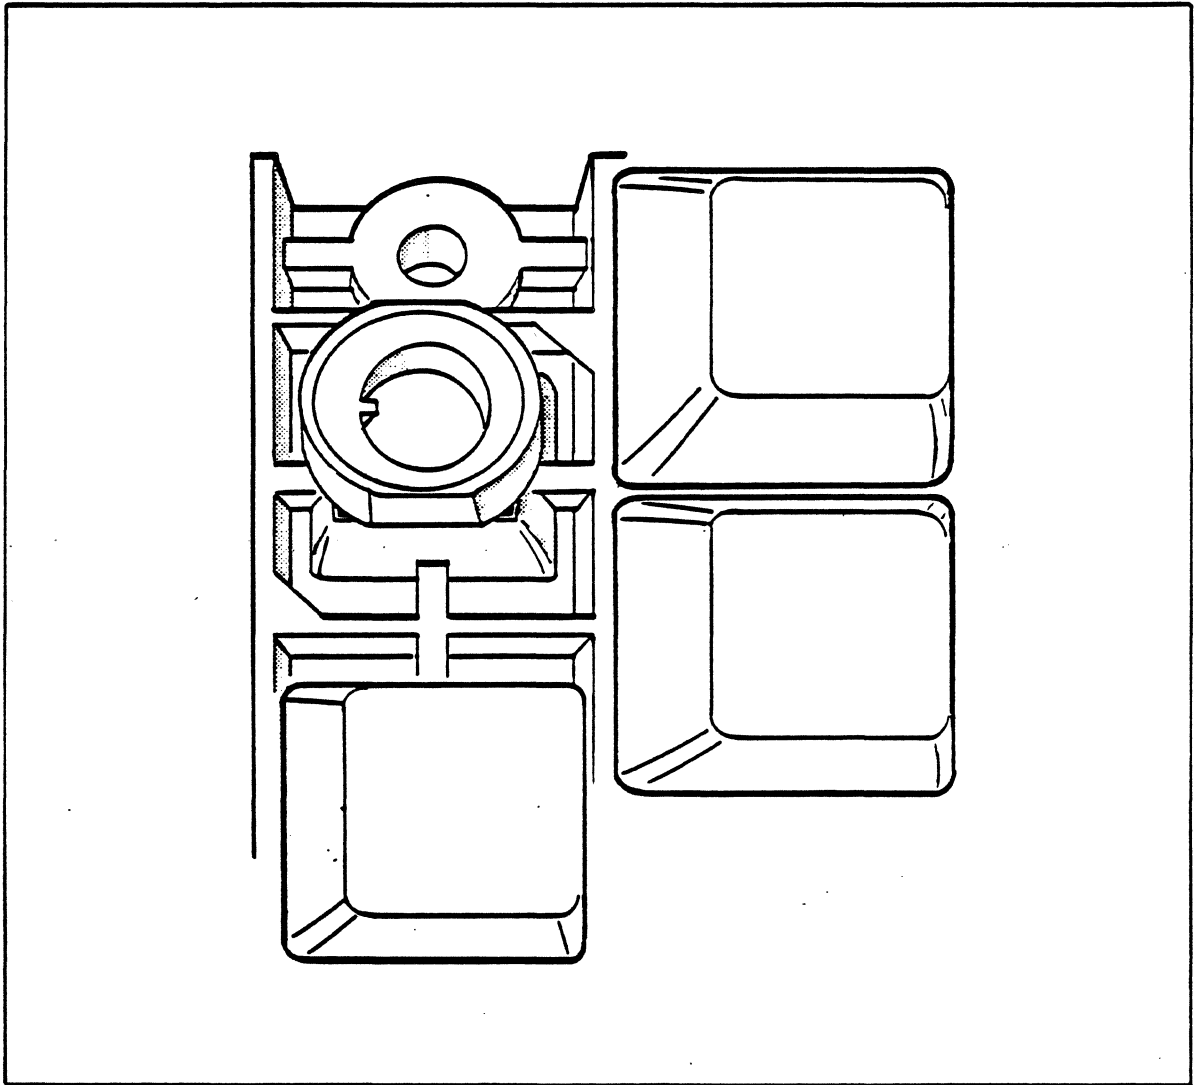

Figure 7-2. Insertion Tool Guideway
8. Place the insertion tool guide in the switch housing making sure that the keyway is toward the front of the keyboard (see Figure 7-2).